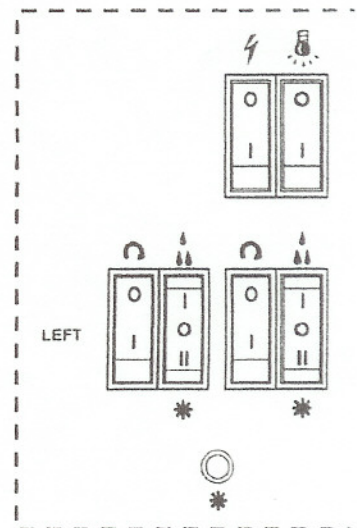

Figure 12
4. To operate, press main power switch and agitator switch to ON position (Figure 12). **NOTE: The agitator switch must be to ON position before setting to liquid or slush mode.**